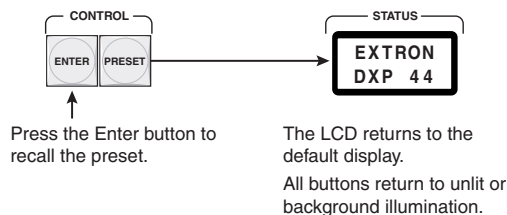

Figure 3-24 — Press Enter to recall
5. To recall the preset, press and release the Enter button (figure 3-24). The configuration stored in memory location 5 is now the current configuration.